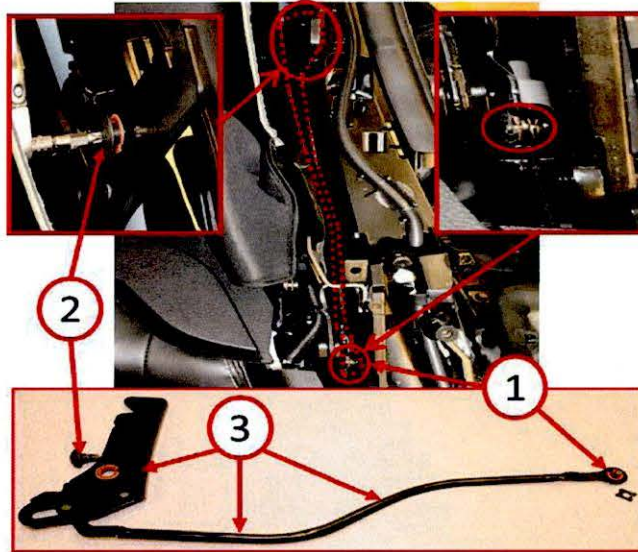

Fig. 4 Side Rail Down Capture Hook Replacement
5. Remove the push clip retainer and pin clevis (1) along with the torx shoulder bolt (2) (Fig. 4) to replace the side rail down capture hook assembly with the appropriate side/color specific revised part indicated in the parts section.